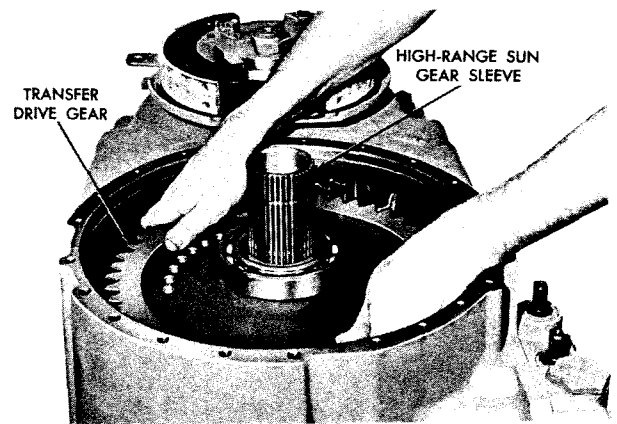

Fig. 5-25. Removing transfer drive gear and sun gear sleeve
(1) Remove the transfer drive gear and sun gear sleeve (fig. 5-25). Remove the sleeve from the gear and the snapping from the sleeve. Refer to paragraph 6-22 for rebuild of the transfer drive gear sleeve assembly, and to paragraph 6-20 for rebuild of the output transfer drive gear.